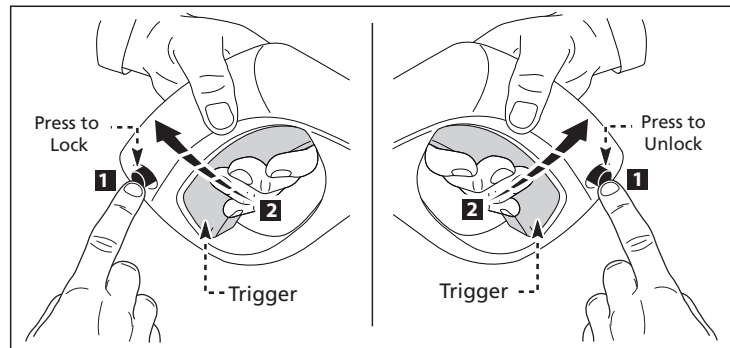

Fig. 21
- Release the safety lock button on the spray gun by pressing the safety lock button from right to left (**Fig. 21**). While pointing the spray gun in a safe direction, squeeze the trigger on the spray gun until there is a steady stream of water, letting the water and air out of the hose.
- Turn the power switch to the 'ON' (I) position. The unit will turn on for 1 - 2 seconds and shut off, this is a normal function of the (TSS) auto start feature. Squeeze the spray gun trigger to begin pressure washing.